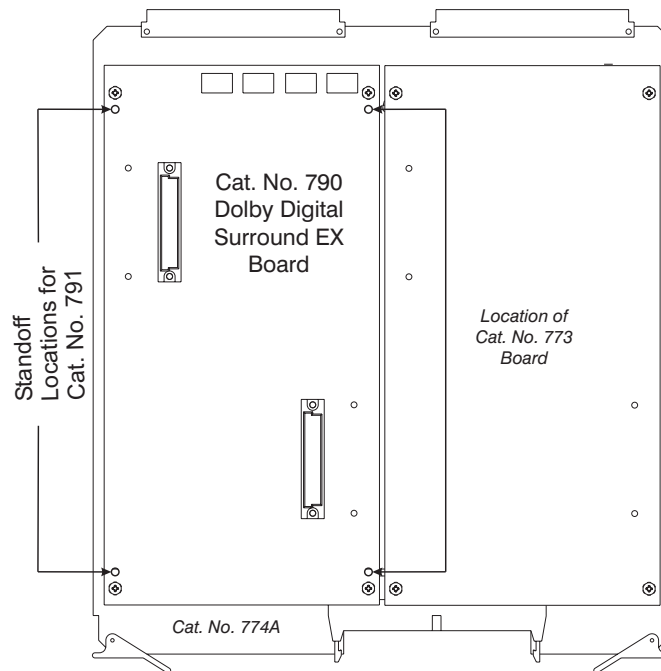

Figure 4 Standoff Locations for mounting the Cat. No. 791
10. Reinstall the Cat. No. 790 board by aligning the two connectors as shown in Figure 4. Press down firmly on each side, making sure the connectors are fully seated. The board can be oriented only one way for the connectors to match.